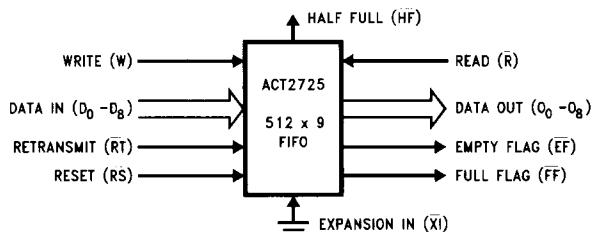

FIGURE 9. Block Diagram of Single—512 x 9 FIFO
The 'ACT2725 may be used in a single device configuration when the application requires 512 words or less. In SDM, the Expansion In (XI) input is grounded (*Figure 9*).